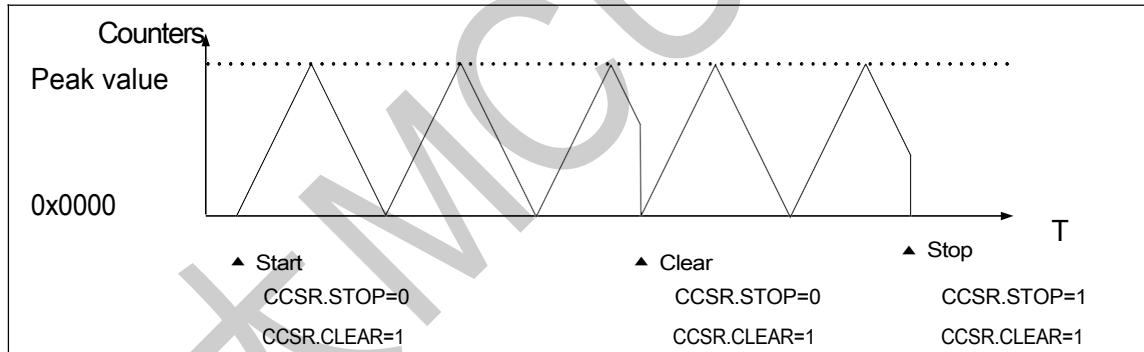

Figure 20-5 Timer4 Triangular wave mode counting action
2) The triangular wave counting operation and control flow is shown in Figure 20-5.